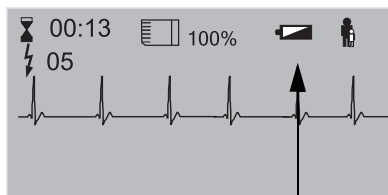

Fig. 3.1 Inserting the battery
1. Insert the battery into the device as shown in Fig. 3.1. Make sure it clicks into place.
3. Check the battery status on the display. If the battery is low, the battery symbol (1) is displayed.